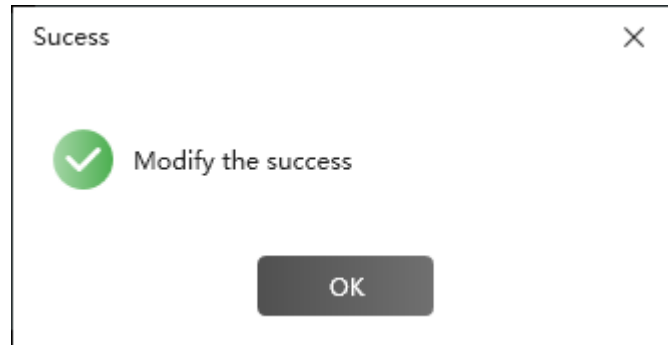

Figure 3.1.10 Prompt for Modifying Password
- In online mode, change IP address in **Device Info** → **IP Address** → **IP** field, then click **Set** button to confirm the modification, it will pop up a prompt, as shown in Figure 3.1.10, After that, make sure to restart the argos device to take the new IP effect.